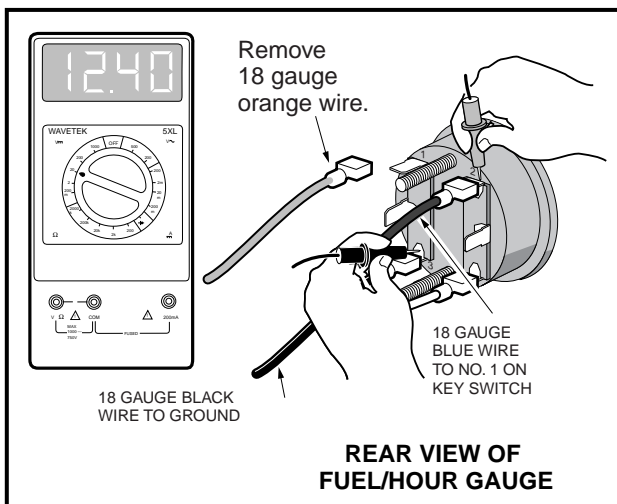

Figure 11-44 Test Fuel Gauge
6. Set a multimeter to 20 volts DC and place the red (+) probe of the multimeter on the (2) terminal of the fuel gauge with the blue wire. Place the black (–) probe on the (3) terminal of the fuel gauge with the black wire (**Figure 11-44, Page 11-36**).
8. Turn the key switch ON. The voltage reading should be the same as the battery voltage reading recorded earlier. If not, check the continuity of the blue and black wires (**Figure 11-44, Page 11-36**).